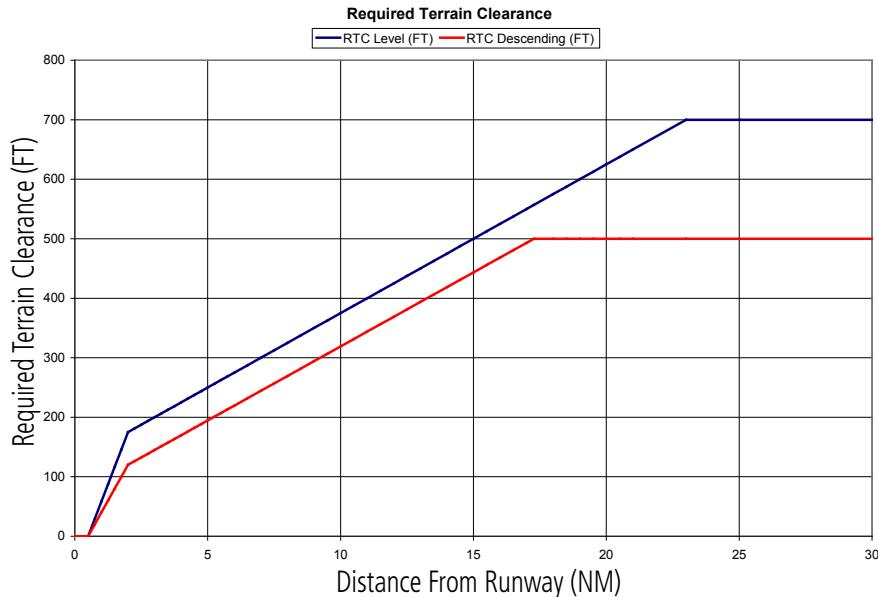

Figure 6-147 FLTA Alert Minimum Terrain and Obstacle Clearance Values
**Reduced Required Terrain Clearance (RTC)** and **Reduced Required Obstacle Clearance (ROC)** alerts are issued when the aircraft flight path is above terrain, yet is projected to come within the minimum clearance values in Figure 6-147. When an RTC alert is issued, a potential impact point is displayed on the TAWS-B Page.
**Imminent Terrain Impact (ITI)** and **Imminent Obstacle Impact (IOI)** alerts are issued when the aircraft is below the elevation of a terrain or obstacle cell in the aircraft's projected path. ITI and IOI alerts are accompanied by a potential impact point displayed on the TAWS-B Page. The alert is annunciated when the projected vertical flight path is calculated to come within minimum clearance altitudes in Figure 6-147.